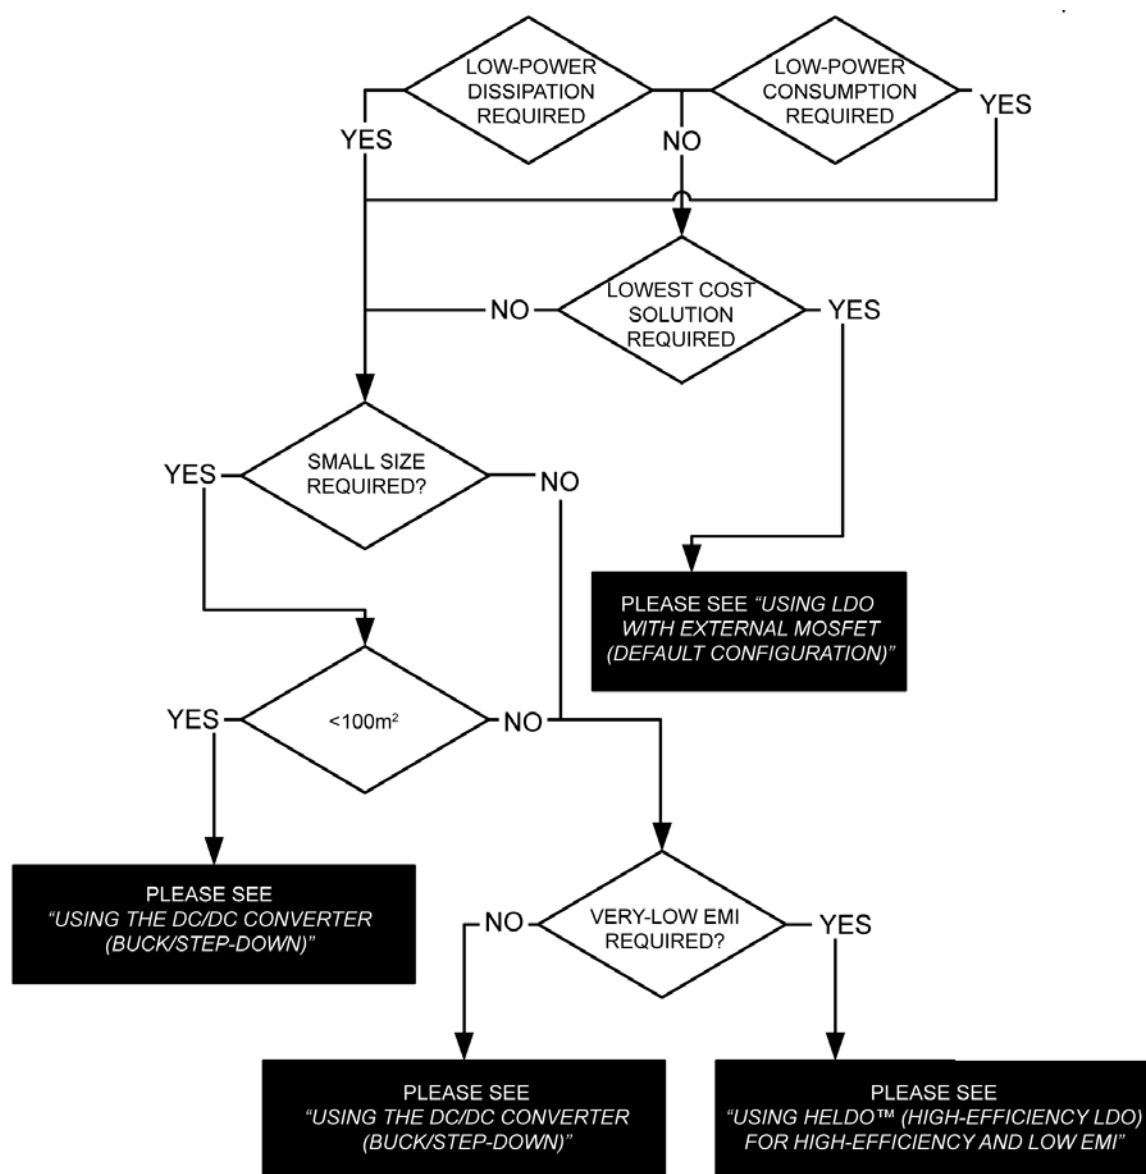

Figure 4. Design Constraint-Dependent Solution Selection
See Figure 4 for step-by-step, design constraint-dependent solution selection.
- MOSFET package thermal resistance must comply with Figure 4, depending on maximum ambient temperature of the application (53°C/W for commercial temperature range and 42°C/W for industrial temperature range).